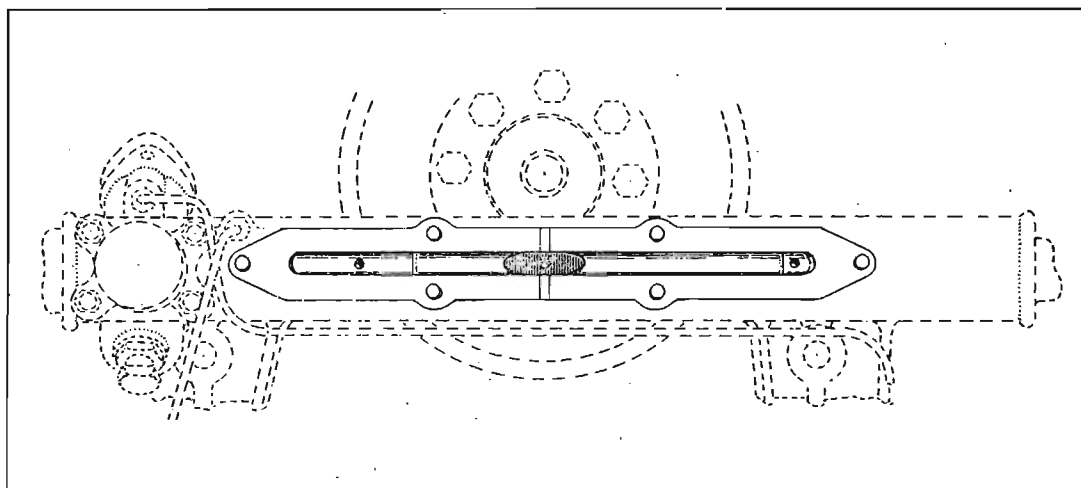

Fig. 3.
11. Detach the steering box cover by removing the six nuts and spring washers and ensure that the locating bolt is centralised in the guide slot, (see fig. 3).